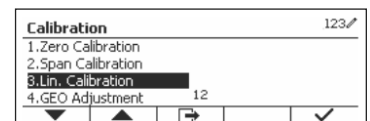

Figure 20
- Exit Linearity Calibration by pressing the softkey corresponding to the ✓ icon. (See Figure 20)